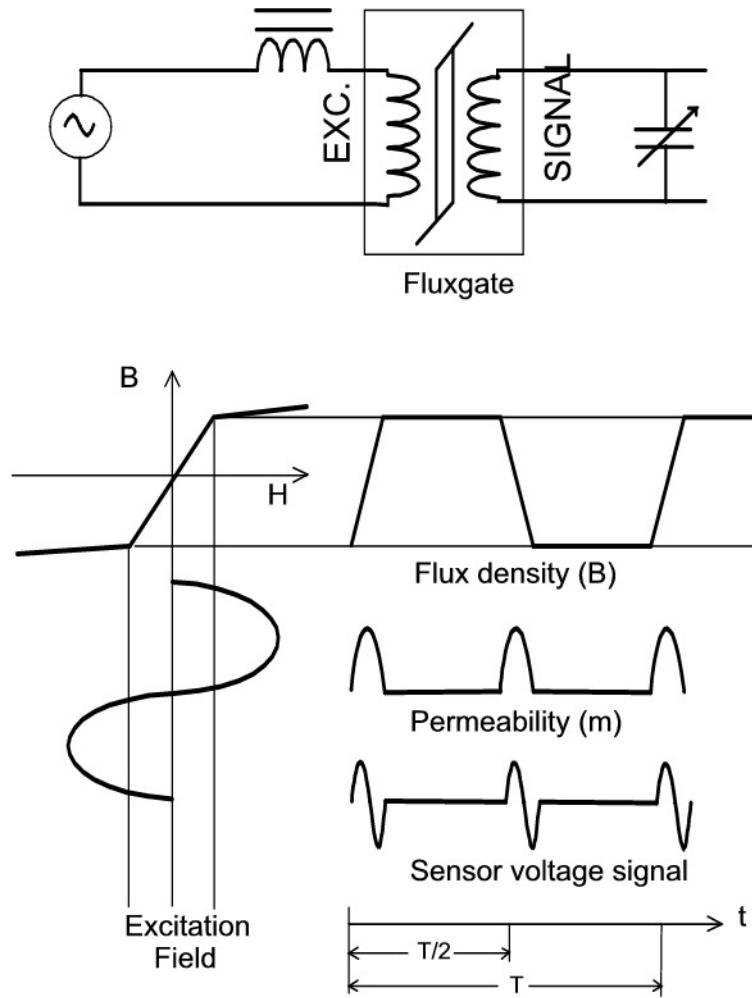

Figure 6-3 Fluxgate Sensor Operation
A fluxgate sensor converts magnetic fields into an electrical voltage by driving a highly permeable magnetic core alternately between positive and negative magnetic flux density (B) saturation levels. This process and the associated waveforms are illustrated in Fig. 6-3.